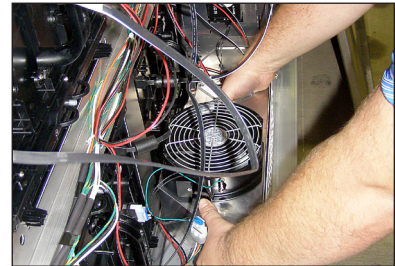

Figure 19: Removing Fan Plenum
2. Press inward on the bottom of each side of the fan plenum. Refer to **Figure 19**.